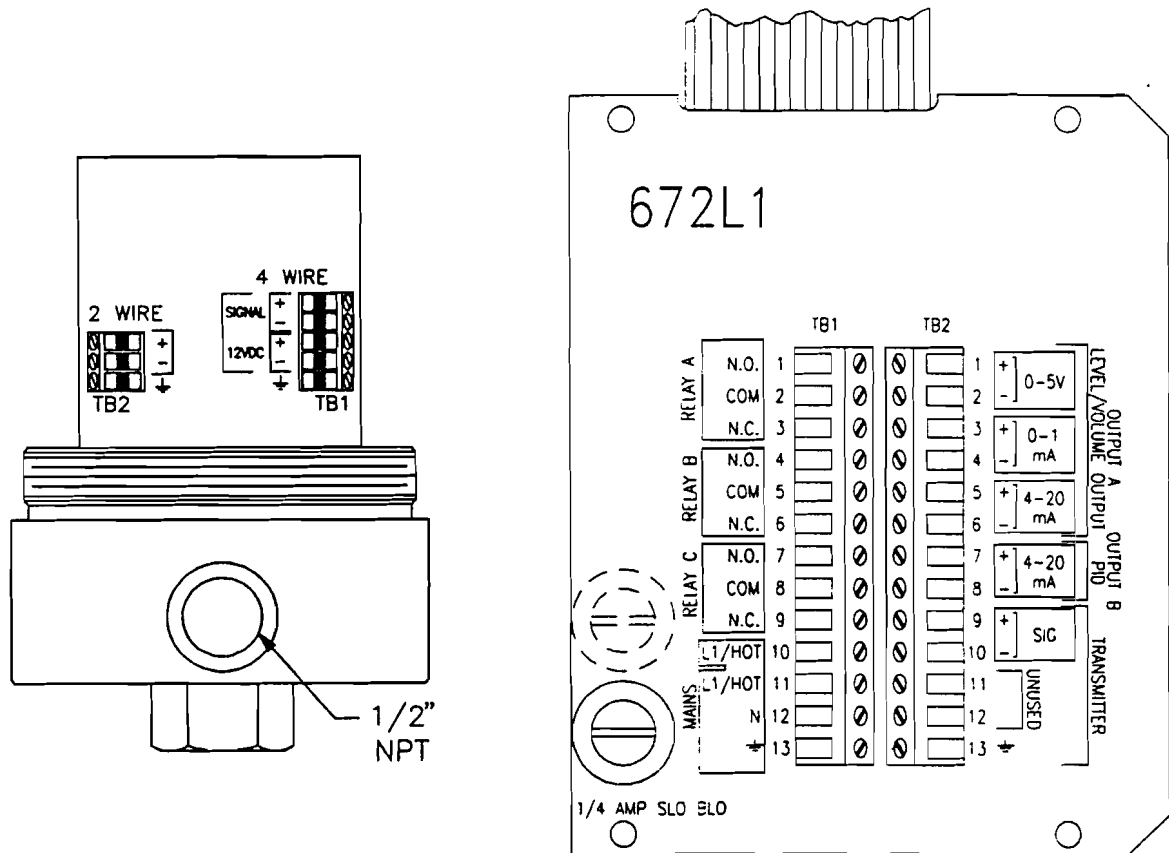
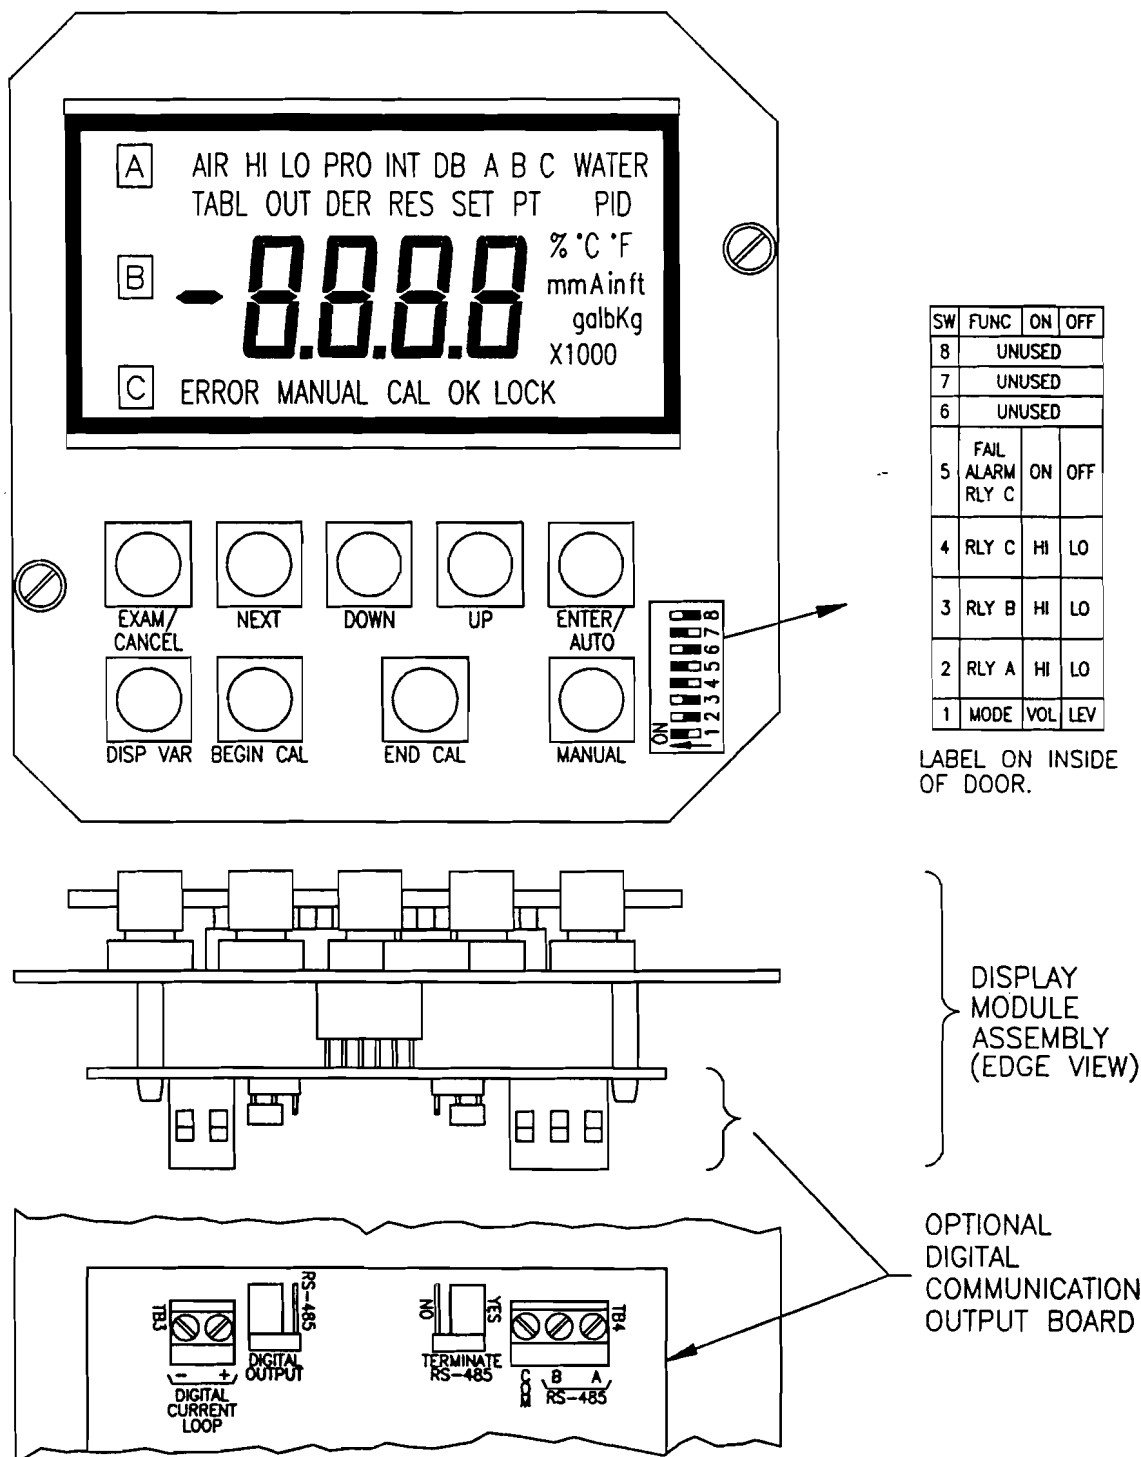

FIGURE 2-7 Model 672L/699L System Hook-up Details
FIGURE 3-1 Model 672L LCD Board Assembly — Operating And Setup Controls
To access 672L receiver/controller terminal strips for electrical connections, loosen four thumbscrews and open enclosure door. Carefully remove LCD board assembly (Figure 3-1 on page 22) by loosening the two captive fasteners. Figure 2-7 on the next page shows terminal designations for system hook-up.
An eight-position DIP switch, used for level/volume display mode and relay operating mode setup, is located at the lower right of the LCD board assembly (Figure 3-1). These switches are accessed by opening the enclosure door which can be easily removed by unsnapping it from its hinge.
1. EXAM/CANCEL key (Figure 3-1)
2. NEXT key (Figure 3-1)
3. **↑** and **↓** keys (Figure 3-1)
4. **ENTER/AUTO** key (Figure 3-1)
5. **DISP VAR** key (Figure 3-1)
NOTE: As a display check, all indicators light up (as shown in Figure 3-1) when optional 4-20 mA LEVEL/VOLUME OUTPUT or PID controller output is displayed and **EXAM/CANCEL** key is pressed.
6. **BEGIN CAL** key (Figure 3-1)
7. **END CAL** recessed button (Figure 3-1)
8. **MANUAL** key (Figure 3-1)
9. SWITCH 1 (Figure 3-1)
10. SWITCH 2 (Figure 3-1)
11. SWITCH 3 (Figure 3-1)
12. SWITCH 4 (Figure 3-1)
13. SWITCH 5 (Figure 3-1)
19. DIGITAL OUTPUT jumper (on optional digital communications board, Figure 3-1)
20. TERMINATE RS-485 jumper (on optional digital communications board, Figure 3-1).